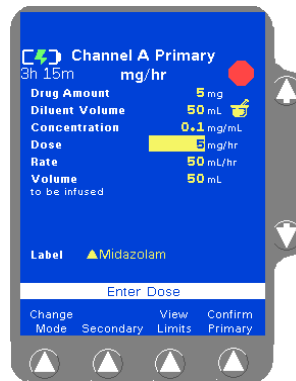

Figure 11-9 Non-Weight-Based Programming Screen
- For non-weight-based modes, the **Volume To Be Infused** field is filled with the standard Diluent Volume (Figure 11-9).